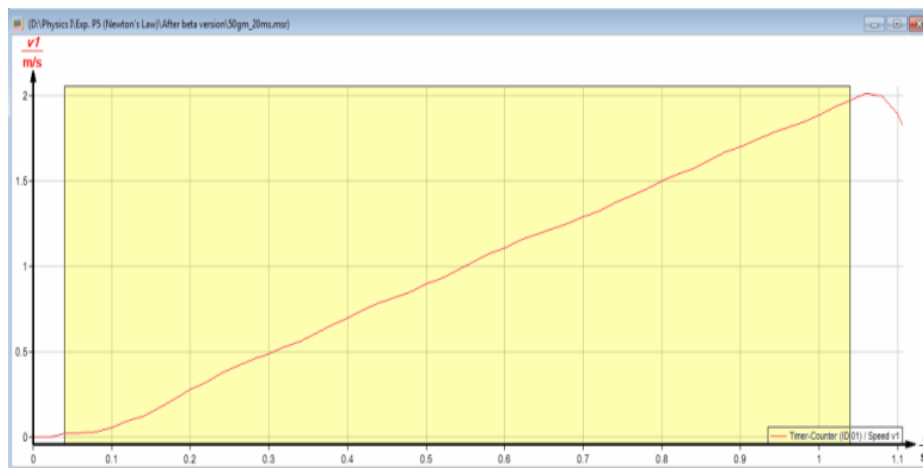
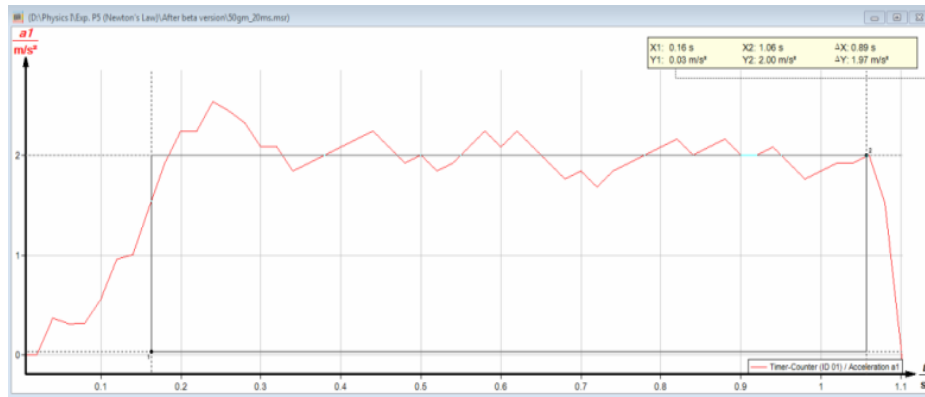

Figure 3.30: Velocity-Time curve.
Figure 3.31: Acceleration-Time curve.
- 12- You will see the Velocity-Time curve and Acceleration-Time curve as shown in Figure 3.30 and Figure 3.31.